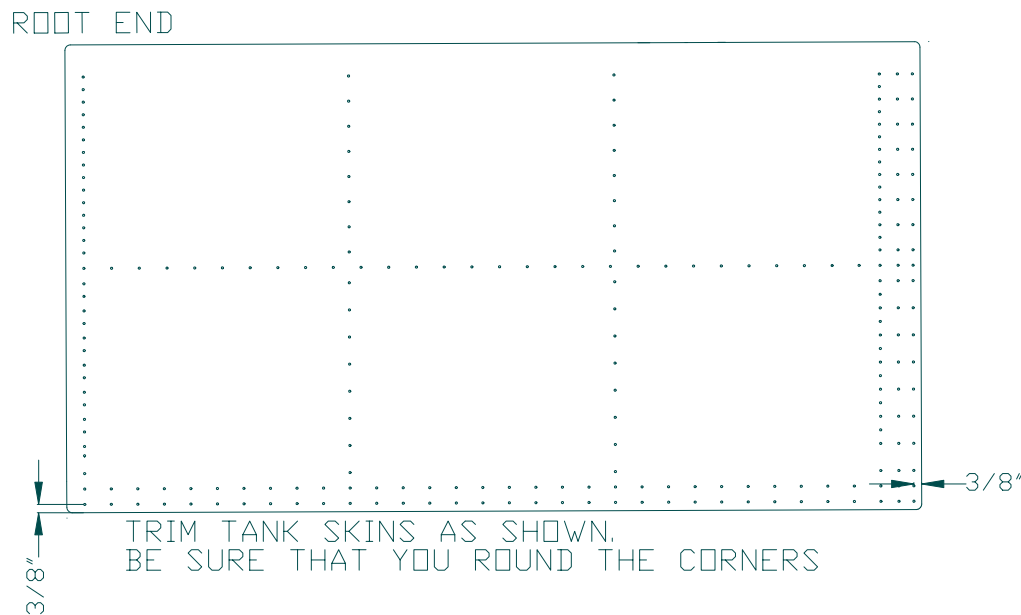

Figure 8.25.3
- 8) Wipe down with M.E.K. (Methyl Ethyl Keytone) or Acetone all mating areas of Gas Tank parts. Trim the excess off the Top and Bottom Tank Skins at this point, 3/8" from center of the hole to the outside edge. Figure 8.25.3.